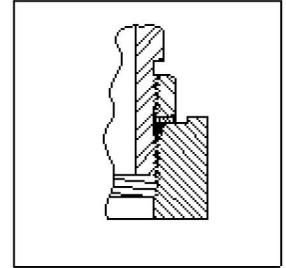

Fig.A9 Maintain fitting orientation while tightening locknut to recommended torque
6. Maintain fitting orientation while tightening locknut to recommended torque listed in Table A4 or A5. See Fig.A9.